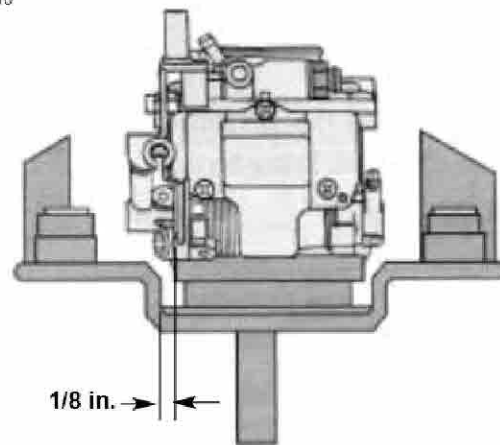

Figure 6. Aligning carb With Backplate
- See Figure 6. Secure backplate to front and rear cylinder heads. Before tightening screws, align the carburetor so there is approximately 1/8 in. clearance between throttle lever and the corner of the backplate as shown in Figure 6.
2. See Figure 6. Secure backplate to front and rear cylinder heads with hollow cylinder head socket screws. Before tightening screws, align the carburetor so there is approximately 1/8 in. clearance between throttle lever and the corner of the backplate as shown in Figure 6.